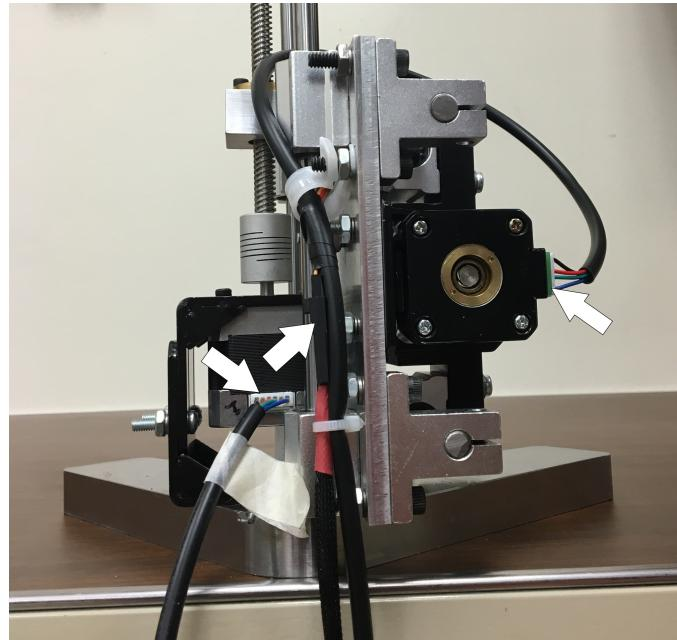

Figure 13: Molex cables secured and out of the way
12. Ensure the three molex cables are securely plugged in to the ARIA (see Figure 13)